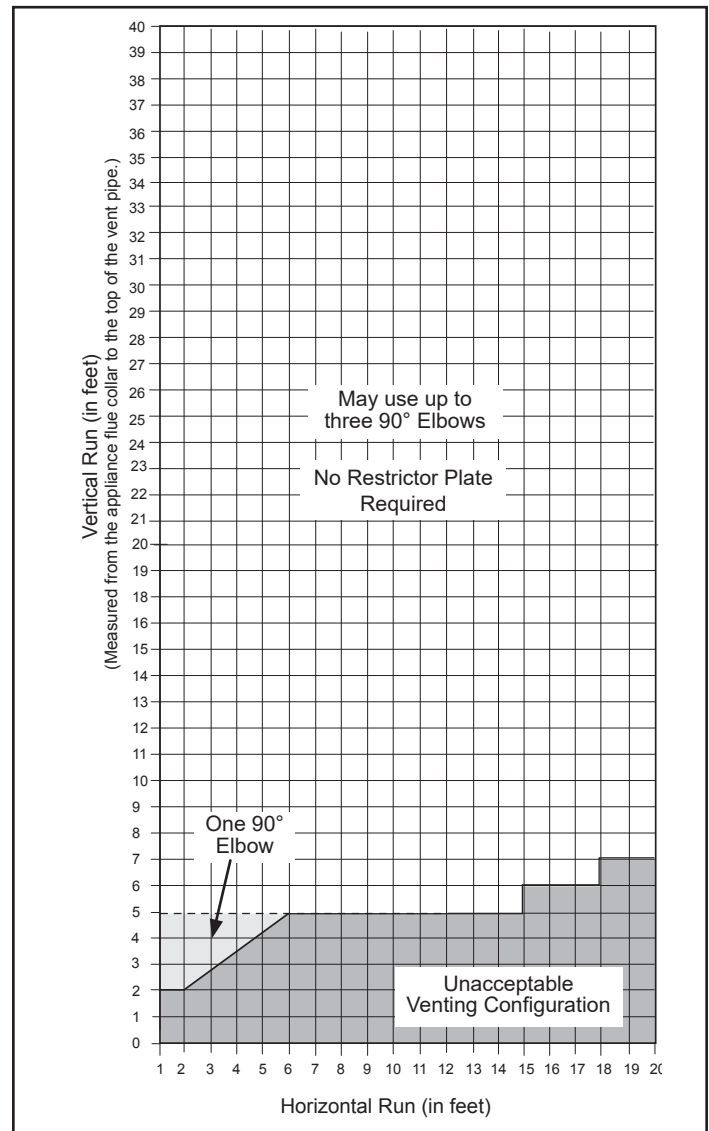
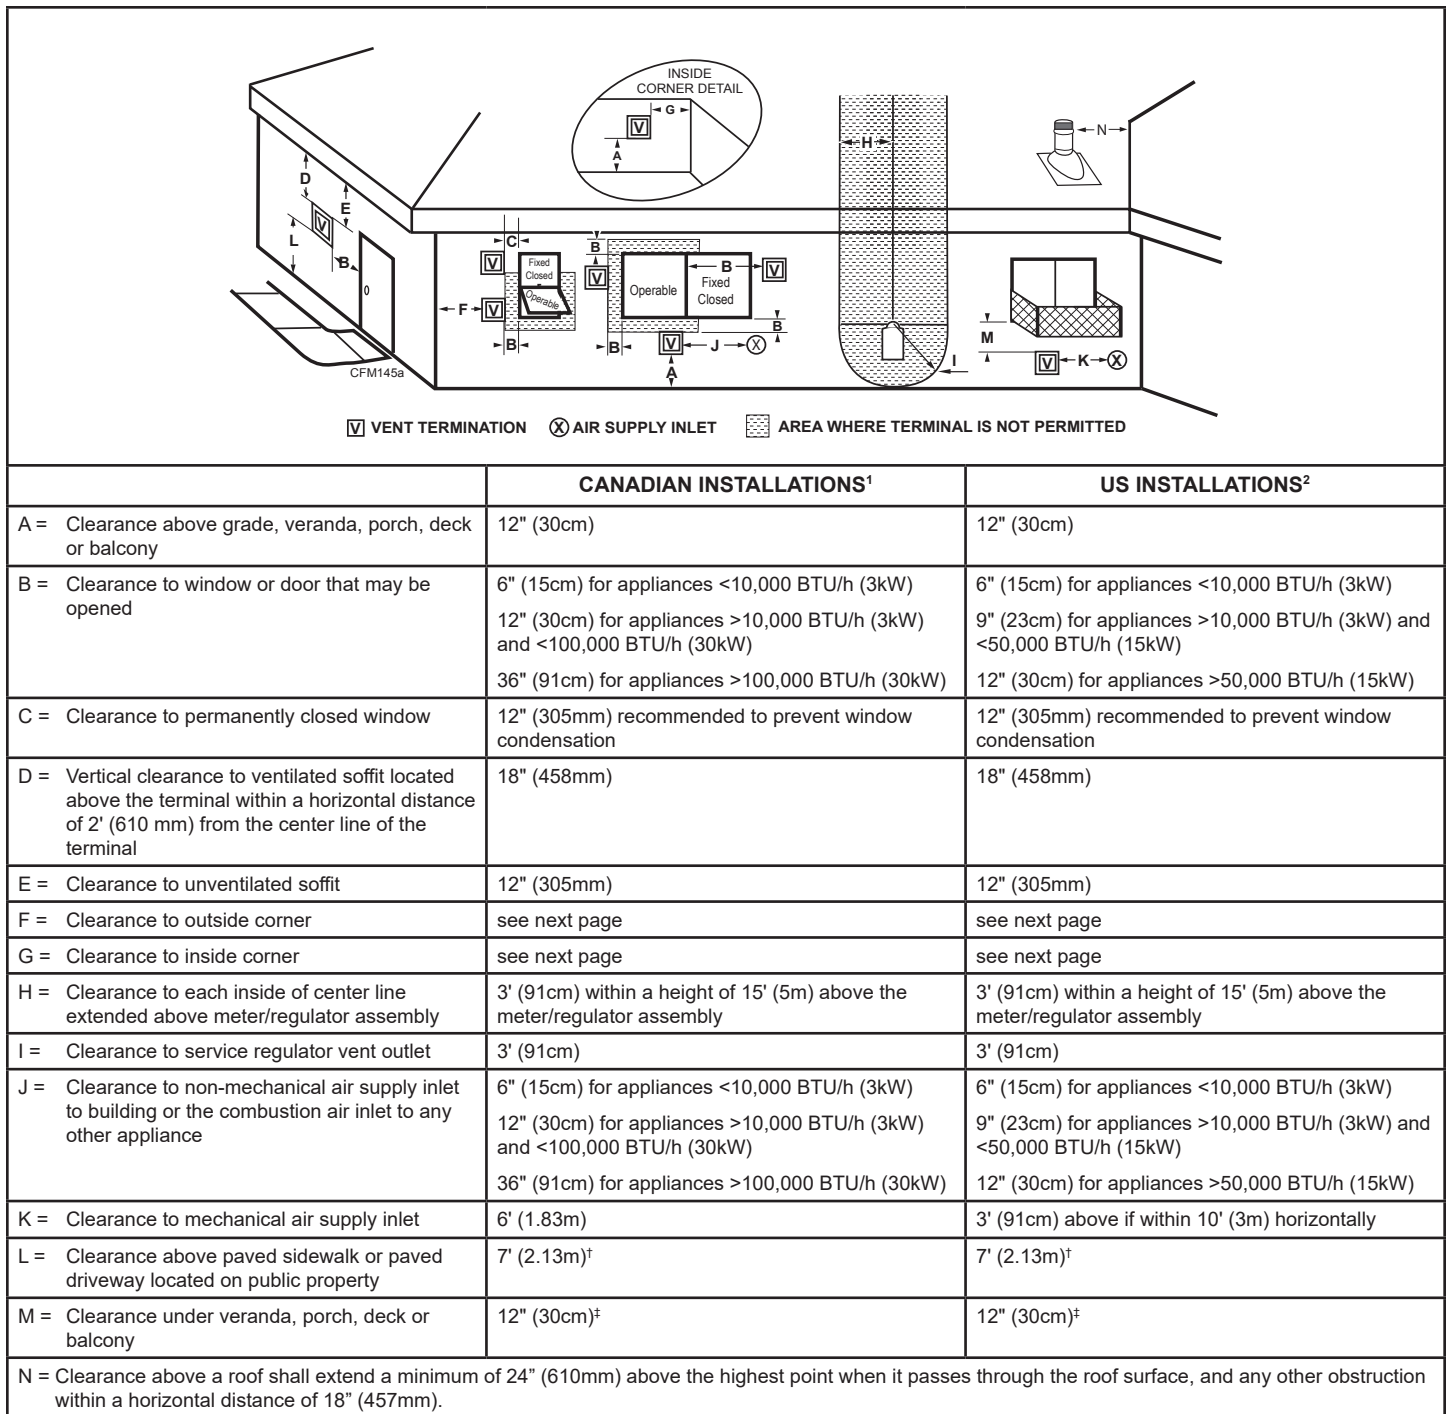

Figure 2.7 - Horizontal vent termination window.
Figure 2.11 - Vent termination clearances.
The vent must rise vertically a minimum of 24" (610 mm) off the top of the unit, before the first elbow. The horizontal run may extend up to 20' (6m) and include a vertical rise of up to 40' (12 m). (Figure 2.7) Horizontal termination must also meet the criteria shown in Figures 2.11 and 2.12.
- Approved vent systems must terminate above and including the heavy line in Figure 2.7.
When planning the installation, consider the location of the vent terminal and clearances. Some of the most common clearances to keep in mind are shown in Figure 2.11.
Important: All vent clearances must be maintained. Check your vent termination clearances against Figures 2.11 and 2.12.